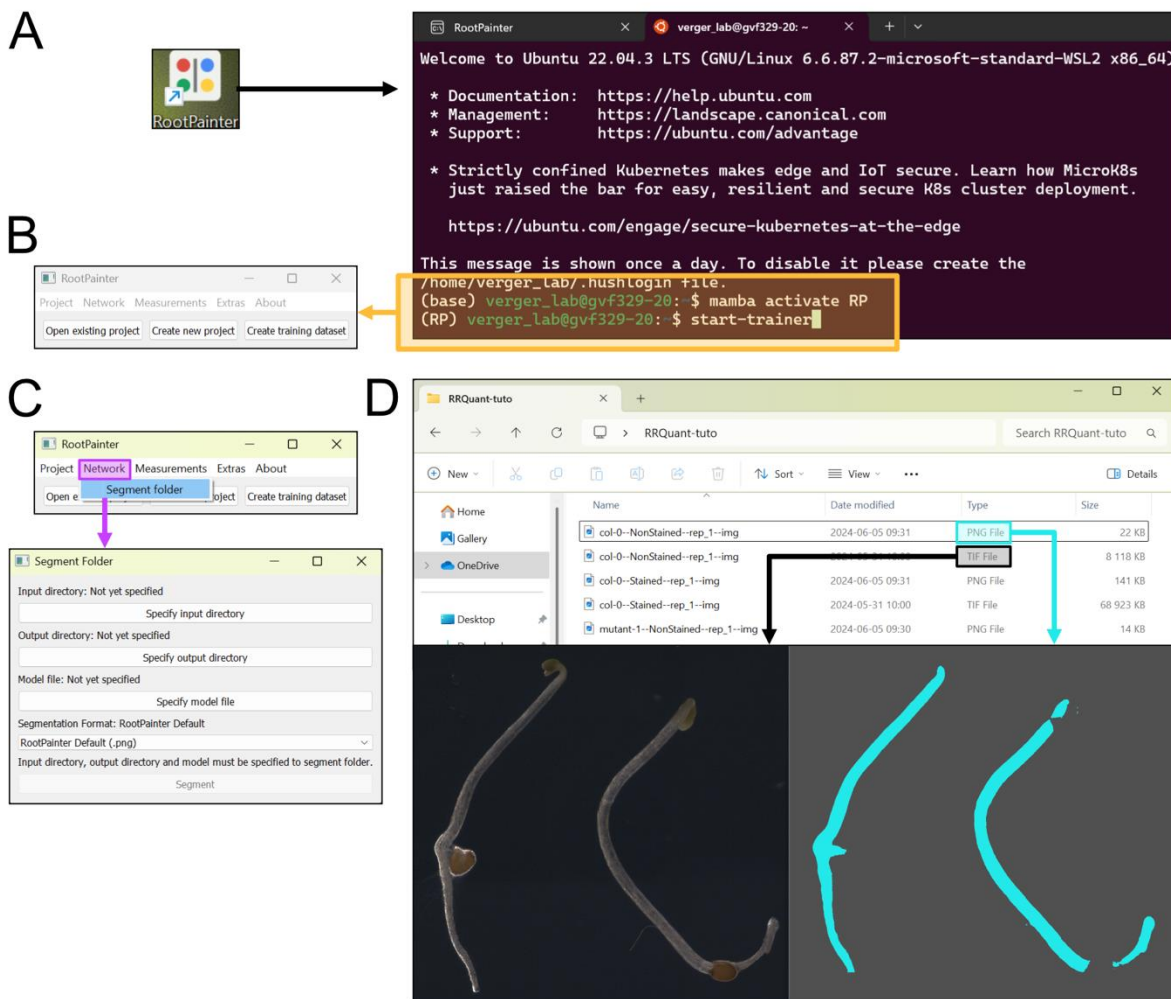

Figure 4: Hypocotyl segmentation with RootPainter
- 2- In the Ubuntu terminal, activate the virtual environment for RootPainter (here called RP, orange box in Figure 4) and start the trainer. A window opens.